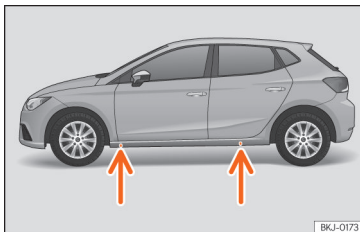

Fig. 192 Jack position points.
- Look on the strut for the mark of the jack support point (sunken area) closest to the wheel to be changed >>> Fig. 192.